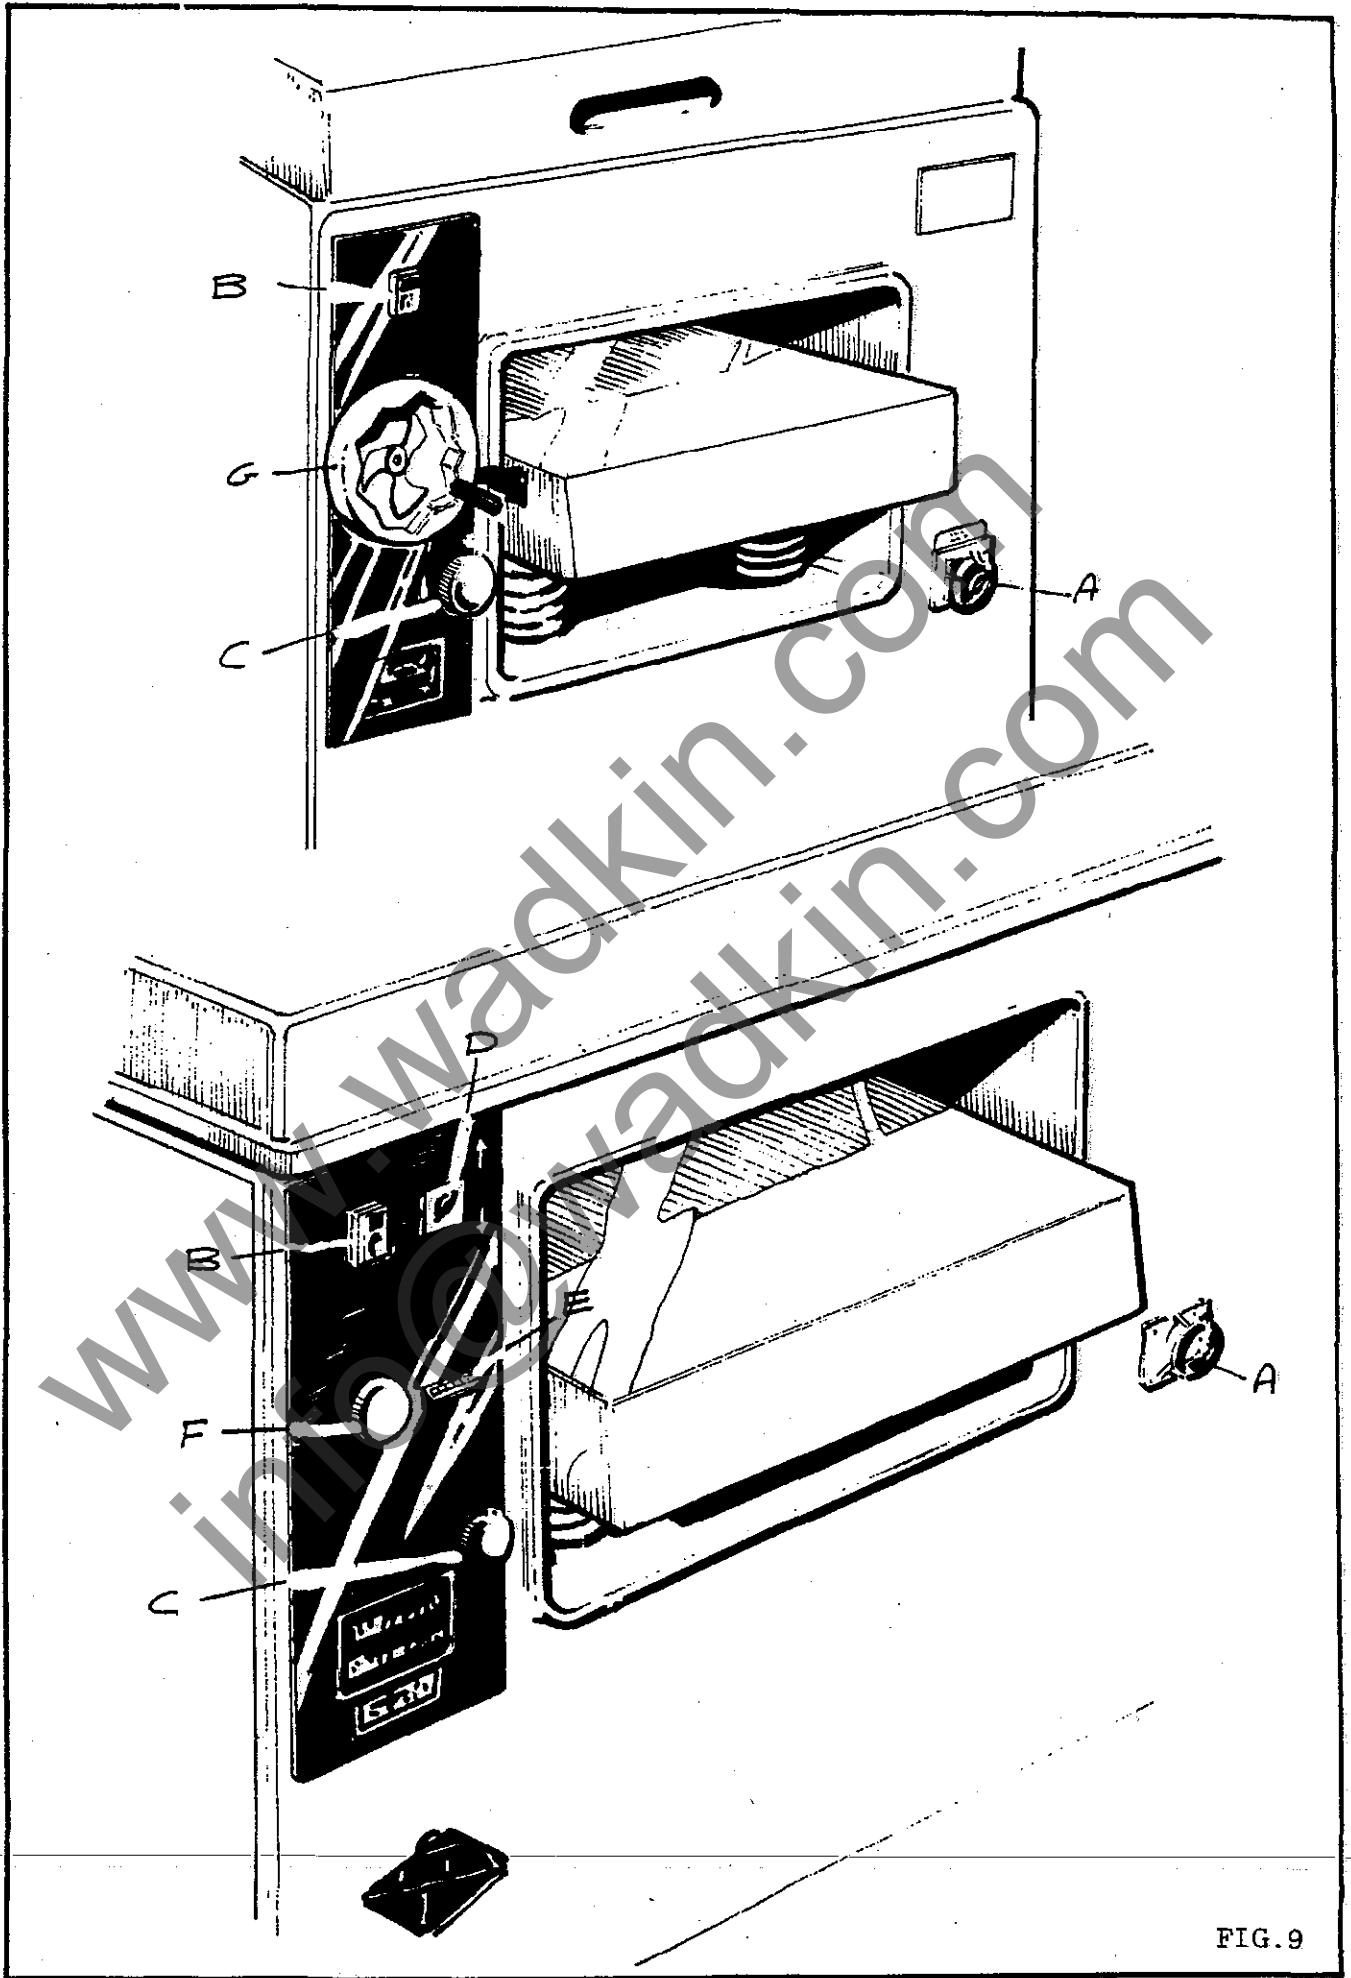

FIG. 9
When an isolator is fitted proceed as follows, (FIG.9) :-
Turn variable feed speed handwheel C clockwise for slow speeds - anti clockwise to increase speed. (FIG.9)
3. Check digital timber thickness counter E.(FIG.9) to ensure correct table position for timber to be planed.
Apart from the power rise and fall previously mentioned, the machine is equipped with a hand fine adjustment F. Used in conjunction with the power rise and fall lever D (FIG.9) the thickness dimension required can be quickly and precisely set. Conversely handwheel F may be used to rise and fall the table through its full travel, is so desired.
A digital timber thickness indicator E is conveniently situated on the panel face. This scale is operated by vertical movement of the table. (FIG.9)